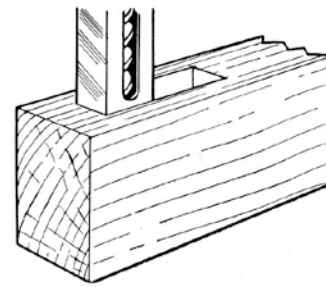

Fig. 15:21 Mortise Bit in the Work
2. Lower the chisel to the face of the work and adjust the fence so that the edge of the chisel will cut on the edge of the layout, as shown in Figure 15:21.